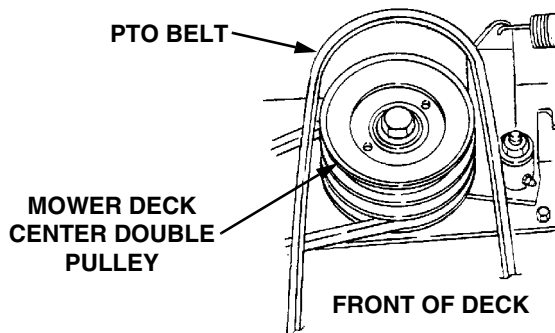

Figure 61
- Install the rearward end of the PTO belt on the upper pulley of the deck center double-pulley (Refer to Figure 61). Ensure that the narrow side of the belt engages the groove of the upper pulley.